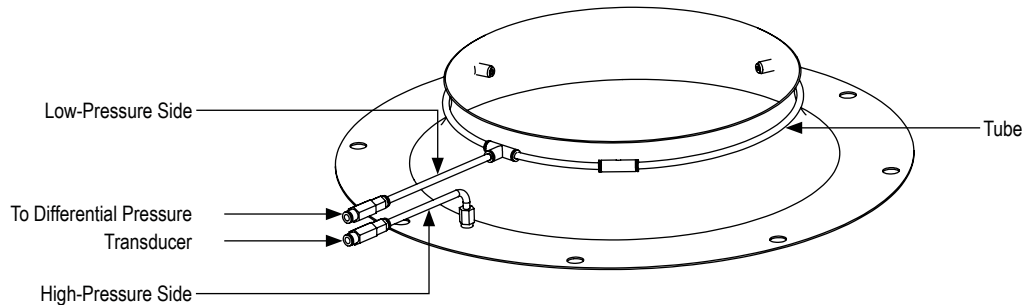

Figure 32 - Piezo Ring
If ordered piezo ring will be factory fitted on the fans. It can be configured with PennBarry iQ-IPCM intelligent pressure control module. Please identify low pressure & high pressure connection as shown in the figure 32. Difference in the cone surface pressure and fan inlet pressure ( $\Delta p$ ) can be correlated to the volumetric air flow rate (Q) with which fan is moving, using equation shown below and can be analyzed to read out the real time fan performance accurate to 5%.